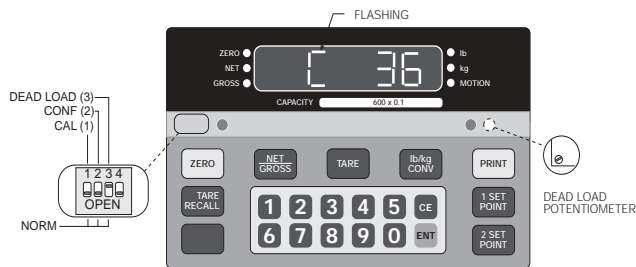

Figure 4-1. Close Switch 3
2. Close SW1-3 (dead load). The leftmost display digit should be flashing C as shown in Figure 4-1.